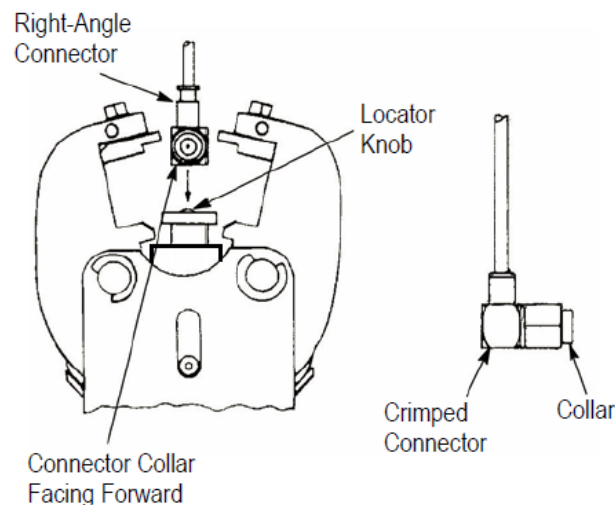

Figure 11
1. Slide the connector (flange end first) over the cable end as shown in Figure 11.
- the connector collar faces forward, as shown in Figure 11.